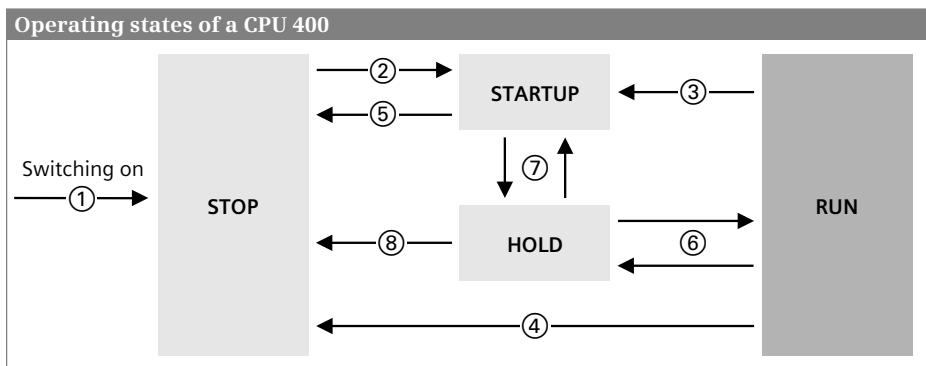

Fig. 5.1 Operating states and operating state transitions of a CPU 400
Fig. 5.1 illustrates the operating state transitions: After switching on ①, the CPU is in the STOP operating state. If the mode switch on the front panel of the CPU is at RUN, the CPU changes to the STARTUP operating state ② and then to the RUN operating state ③. If a “serious” error occurs during execution in STARTUP or RUN, or if you set the mode switch to STOP, the CPU returns to the STOP operating state ④ ⑤.